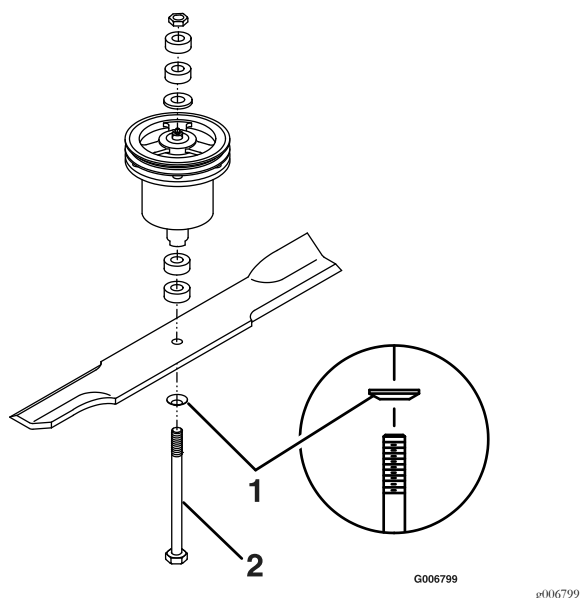

Figure 12
10. Torque bolt to 75–80 ft-lb (102–109 N-m) (see Figure 12).
For 48" Decks: If there is no adjustment left in the turnbuckle and the belt is still loose, the rear idler pulley can be repositioned in the front hole (See Figure 12). The belt guide located next to the pulley must also be repositioned in the front hole when the pulley is moved. The turnbuckle will need to be readjusted.